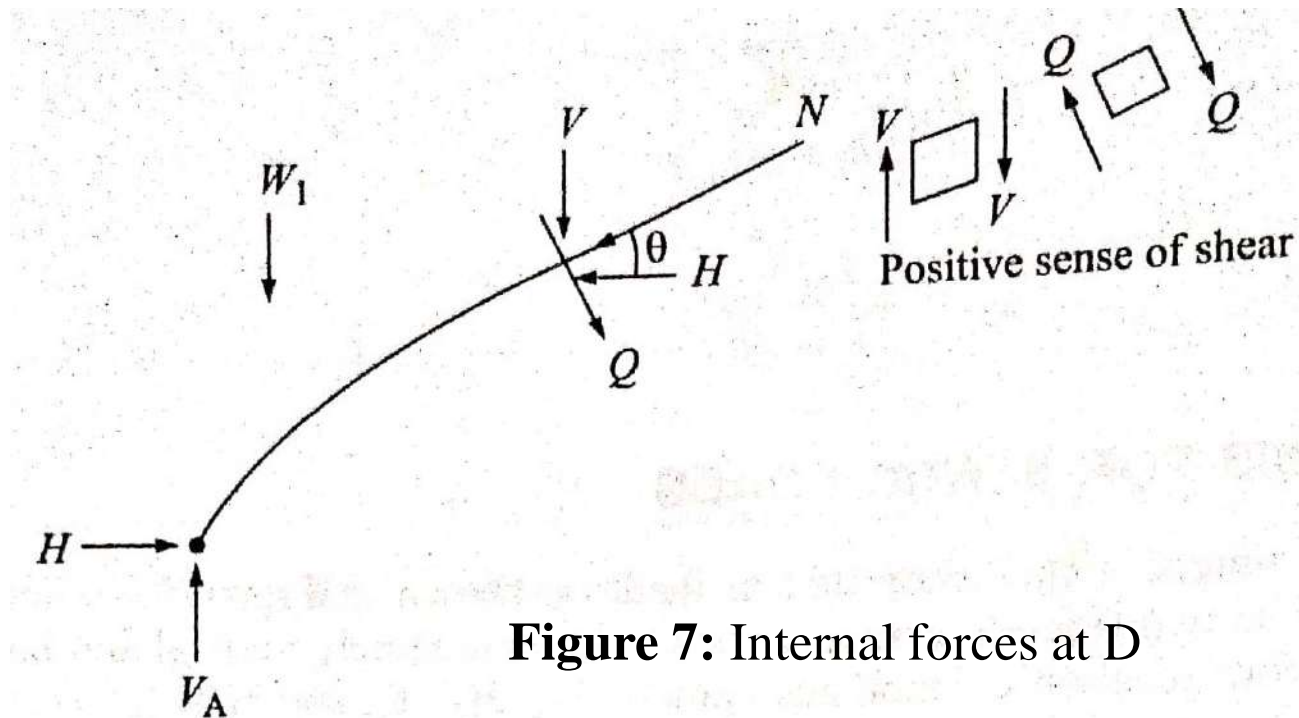

Figure 7: Internal forces at D
- In the above Figure 7, All these forces are indicate positive sign, The normal thrust and radial shear is calculated by